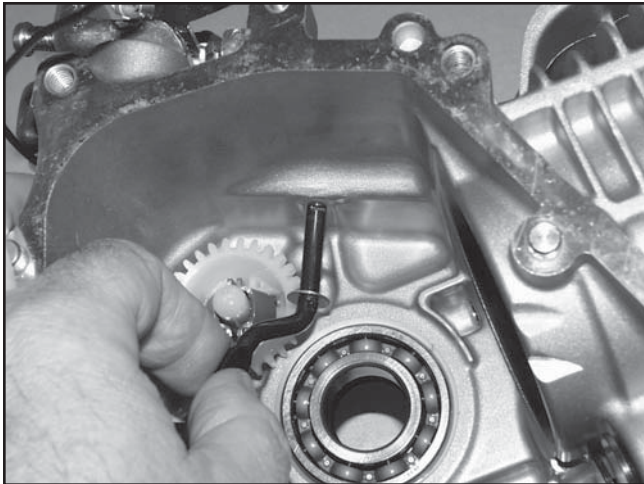

Figure 11-12. Installing Governor Shaft.
3. Install one thrust washer onto the governor cross shaft and slide the shaft up through the inside of the crankcase. See Figure 11-12.